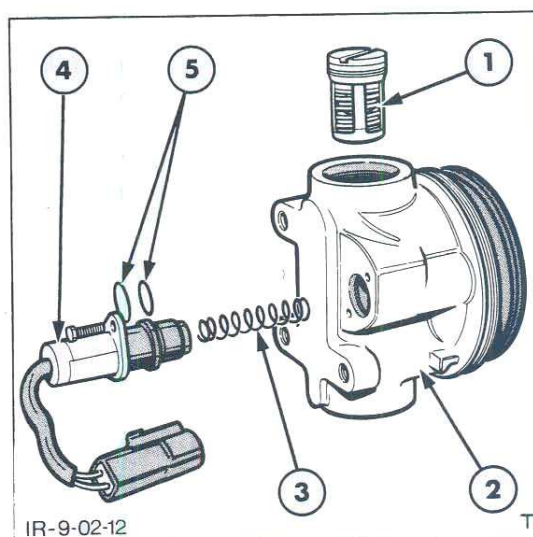

Figure 12
2. Remove the two screws securing the electrical pressure differential switch and withdraw the switch from the head, Figure 12.